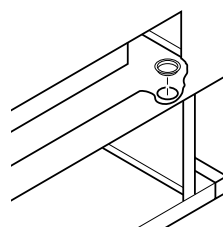

Figure 13 - Installing Bushing
4. Install one plastic bushing provided in blower kit into the 1 1/2" hole in the left rear of firebox floor. Access hole through the rectangular opening in the rear panel (see Figure 13).
11. Attach the terminal ends of the white and black power cord wires to the terminals on the blower motor (see Figure 13). Push firmly.
12. Attach the terminal end of the green power cord wire to the front tab of the blower housing using screw provided (see Figure 13).
6. Install one plastic bushing provided in blower kit into the 1 1/2" hole in the left rear of firebox floor. Access hole through the rectangular opening in the rear panel (see Figure 13, page 10).